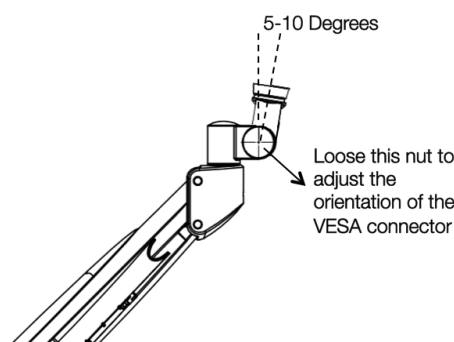

Figure 5 – Adjust the orientation of the VESA connector
2. **Adjust the orientation of the VESA connector** as shown in Figure 5. To do it, loosen the nut with the tool provided with the device, change the orientation to be between 5 and 10 degrees as shown in Figure 5 and then tighten the nut again.